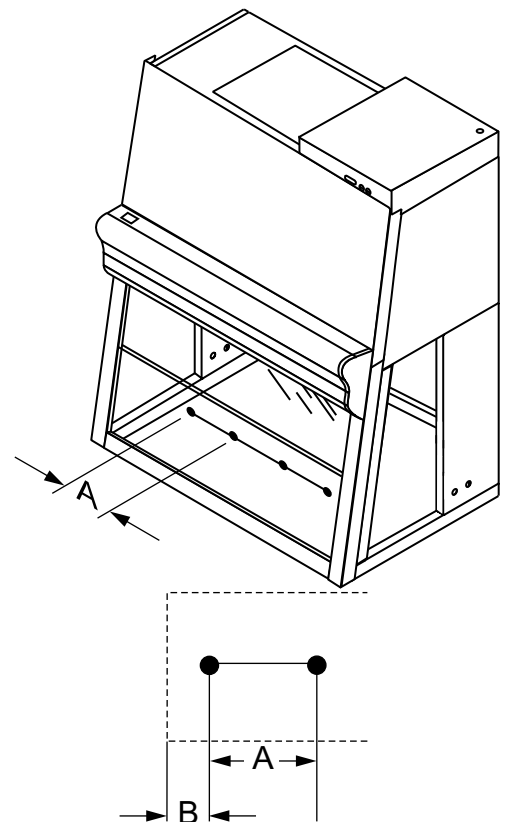

Fig. A12,
**Fig. A12:** Test line in the center of the work surface parallel to the front window. Beginning with distance **B** of 15 cm (6 in.) to the sidewalls, measure the lighting intensity at distance **A** of 30 cm (12 in.).